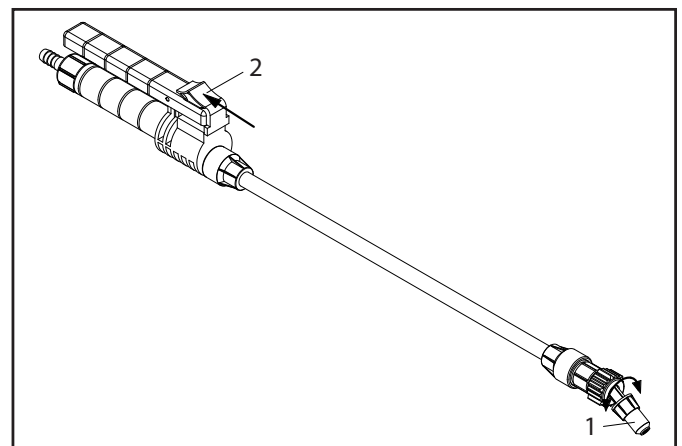

Figure 4: Spray gun
10. The spray gun's liquid flow can be adjusted by turning the spray tip (1) at the end of the spray gun wand. The spray gun's trigger can also be locked in the "on" position by sliding the plastic tab (2) on the top of the trigger towards yourself (Figure 4).